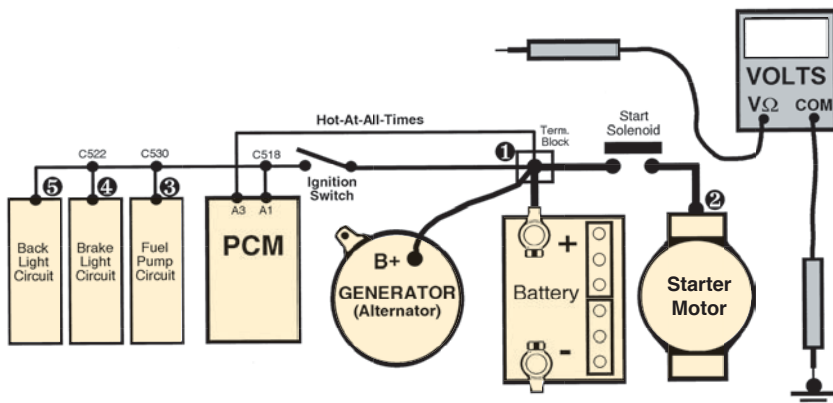

Figure 4: Checking B+ on the Voltage Side of the Electrical System
For purposes of illustrating this test procedure using **Figure 4**, let's set up the following conditions: B+ with the engine OFF is 12.75 V because the battery has a little surface charge. B+ with the engine running is 14.5 volts. The DMM is set to read 20 V DC and is grounded to the battery's negative terminal. The DMM in **Figure 4** shows the black (COM) test lead touching ground, but the true ground for the DMM should *always* be the battery's negative post.
The remaining two circuits at the left of **Figure 4** are the brake lights and the backup lights. Test points (4) and (5) should indicate close to B+ when each circuit is ON. If B+ is 14.5 at the terminal block the B+ level at test points (4) and (5) should be about 14.1-14.2 volts, which allows for a few tenths of a volt drop from the ignition switch and wiring to the back of the vehicle. If both circuits get lower than normal B+ due to a defective connection at C522 causing a voltage drop, both lamps would be dim. If only one circuit is dim, then C522 is good, and the problem may be on the ground side of the dim circuit. That is why we will cover the ground side of the circuit in Part Two.